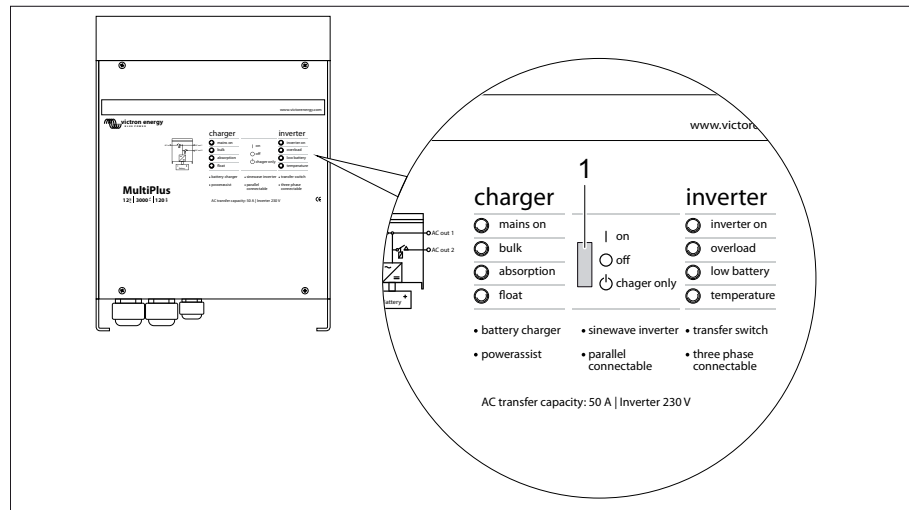

Fig. 223 AC converter MultiPlus
For proper functioning of the Digital Multi Control Panel the flip switch at the AC converter MultiPlus (Fig. 223,1) has to be set to "on".
Positions of the flip switch (Fig. 223,1)
- ▷ If no 230 V connection is active and the vehicle is not being used for a long period, the flip switch (Fig. 223, 1) has to be set to "off". Otherwise it is possible that the batteries are empty after 3–4 days at the latest.